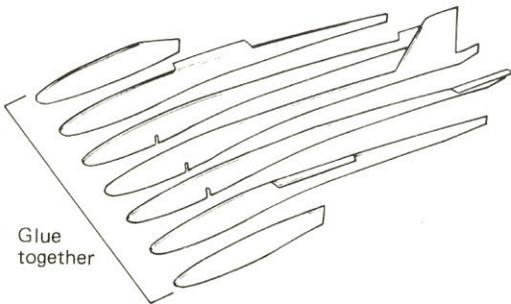

Fig. 22 Composition of the fuselage
To meet these requirements, the actual construction of the plane body, as shown in Figure 22, is made up of layers of heavy paper. There are more layers in the nose for added strength. In Figure 23, the dashed lines show where the glider tends to bend easily. To prevent this, parts (A) and (B) extend past the arrow marks for reinforcement. This flat type of body is superior to the monocoque (tube body) as it is easy to construct, repair, launch and it also has less wind resistance.